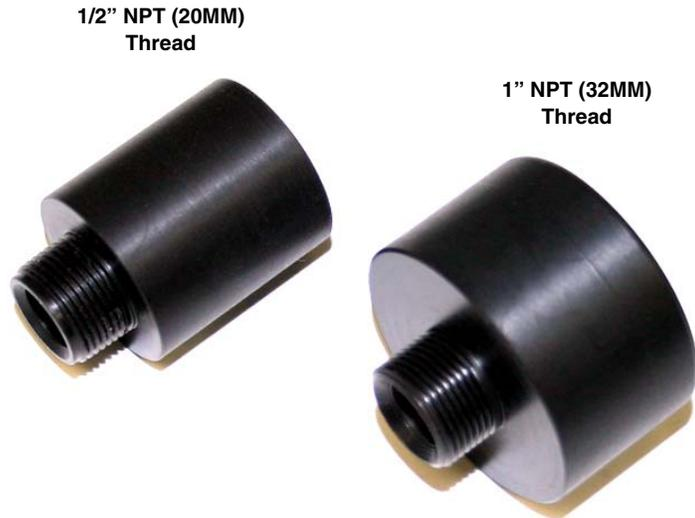

Figure 2-14 Network cable conduit fittings
**Teledyne Isco strongly recommends that you route the interface cable through conduit between the safe and hazardous areas.** Two different sizes of conduit fittings are provided with the interface cable assembly (Figure 2-14).